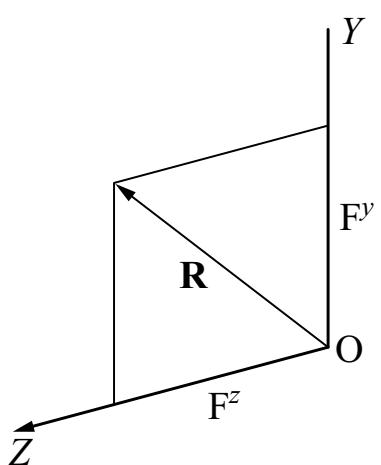

Fig. 2.12 Resultant in YOZ plane.
- (i) Let us take F^y and F^z and find the resultant of these components using parallelogram law in YOZ plane. (Fig. 2.12)